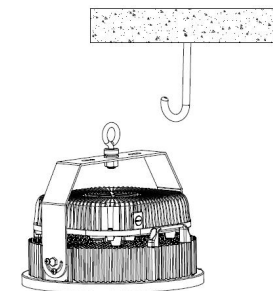

FIG. 3
- 3) Hang up the fixture to the hook from the ceiling securely. [Fig.3,4].